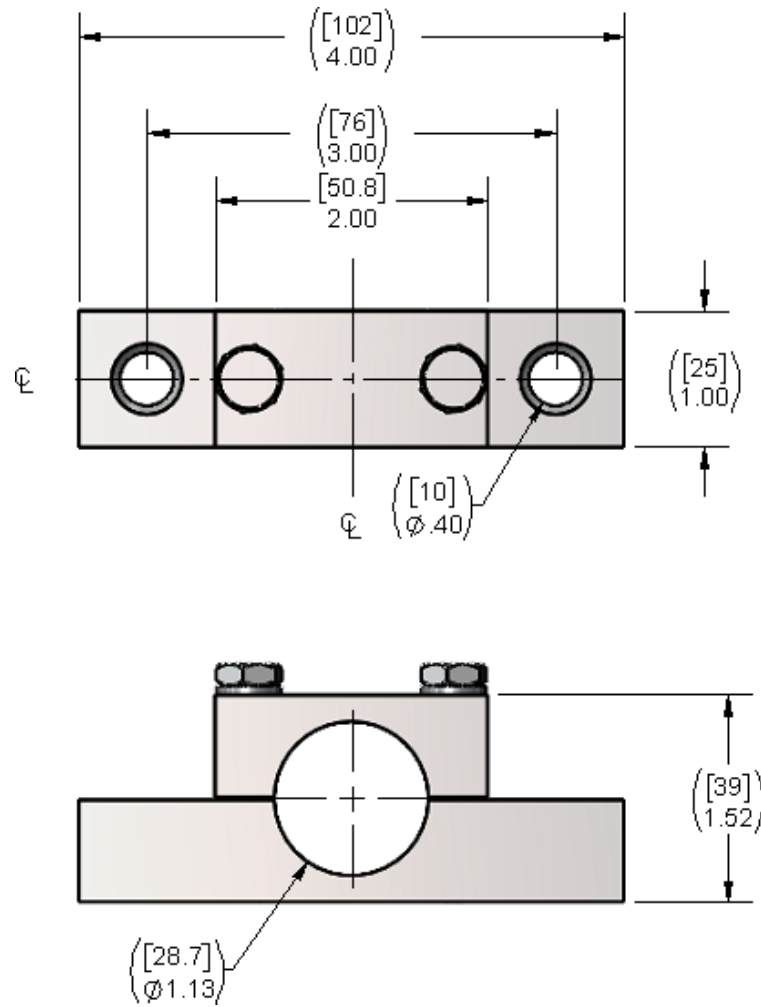

Figure 5: Tiltmeter Bracket Dimensions
2. Securely attach the mounting bracket to a rigid structure or surface that is free of vibration and relatively flat. Refer to figure 5 for the bracket hole dimensions. 3/8" UNC or M10 concrete anchors are recommended for concrete surface and 3/8" UNC or M10 bolts for steel surfaces.